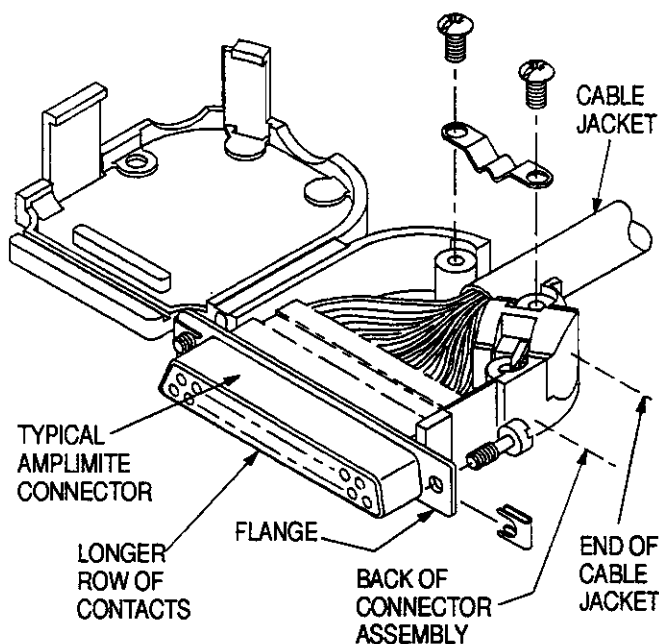

Figure 2
After termination, the distance between the back of the connector assembly and the end of the cable jacket must not exceed 28.19 mm [1.11 in.]. Refer to Figure 2.
of contacts on the bottom so that the cable wires are not pinched when the cable clamp is closed. See Figure 2.
6. If using a metal-shell connector, insert each mounting screw through the back of each flange hole. Slide each retainer clip around each side of the flange and mounting screw. See Figure 2.